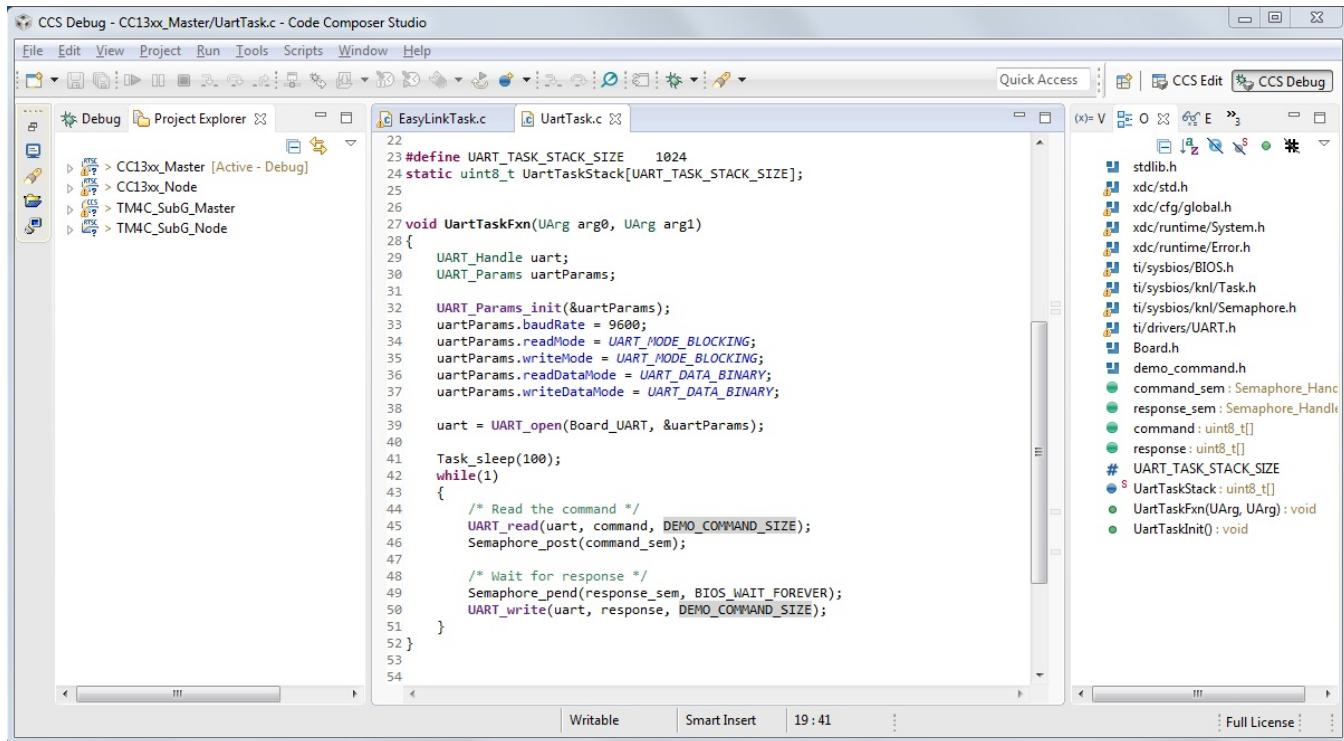

Figure 10. CCS Projects
3. Import all projects into CCS (see Figure 10).